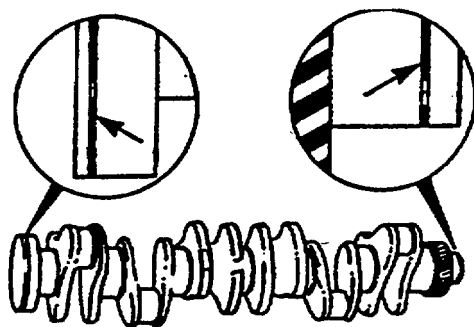
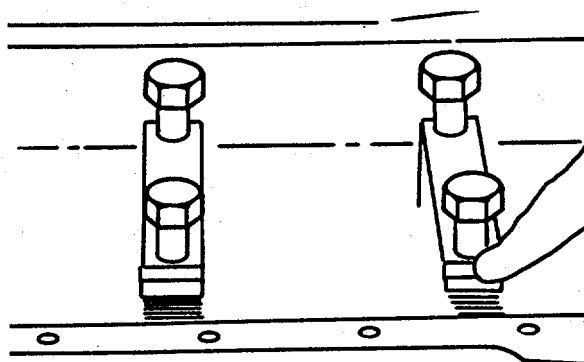

FIGURE 4-63. Inspecting Seal Surfaces.
FIGURE 4-69. Removing Main Bearing Caps.
- c. Inspect the crankshaft seals wear surfaces for scratches or grooving as shown in FIGURE 4-63.
- Remove bearing sleeves (2, and 5, FIGURE 4-69) and straight pin (7).
- a. Remove the main bearing caps (1 and 3, FIGURE 4-63) as shown in FIGURE 4-69.